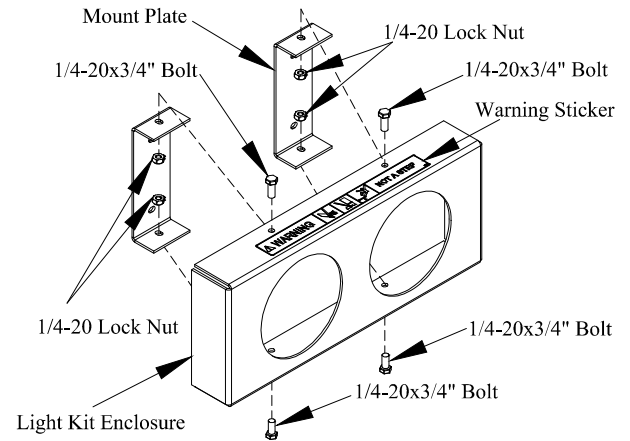

Figure 7: Light kit assembly.
**1. Loosely Attach** two (2) mount plates to the back of each enclosure using two (2) 1/4-20 nuts and bolts per mount plate (Figure 7).
Note: Ensure the warning stickers are on top (Figures 7 and 8).